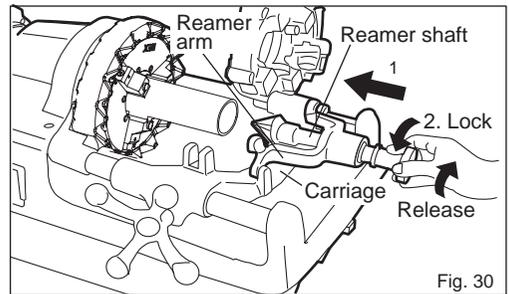

Fig. 30
- After cutting the pipe with the Cutter, be sure to use the Reamer to chamfer the inside of the pipe before making a thread. (Figs. 30, 31)